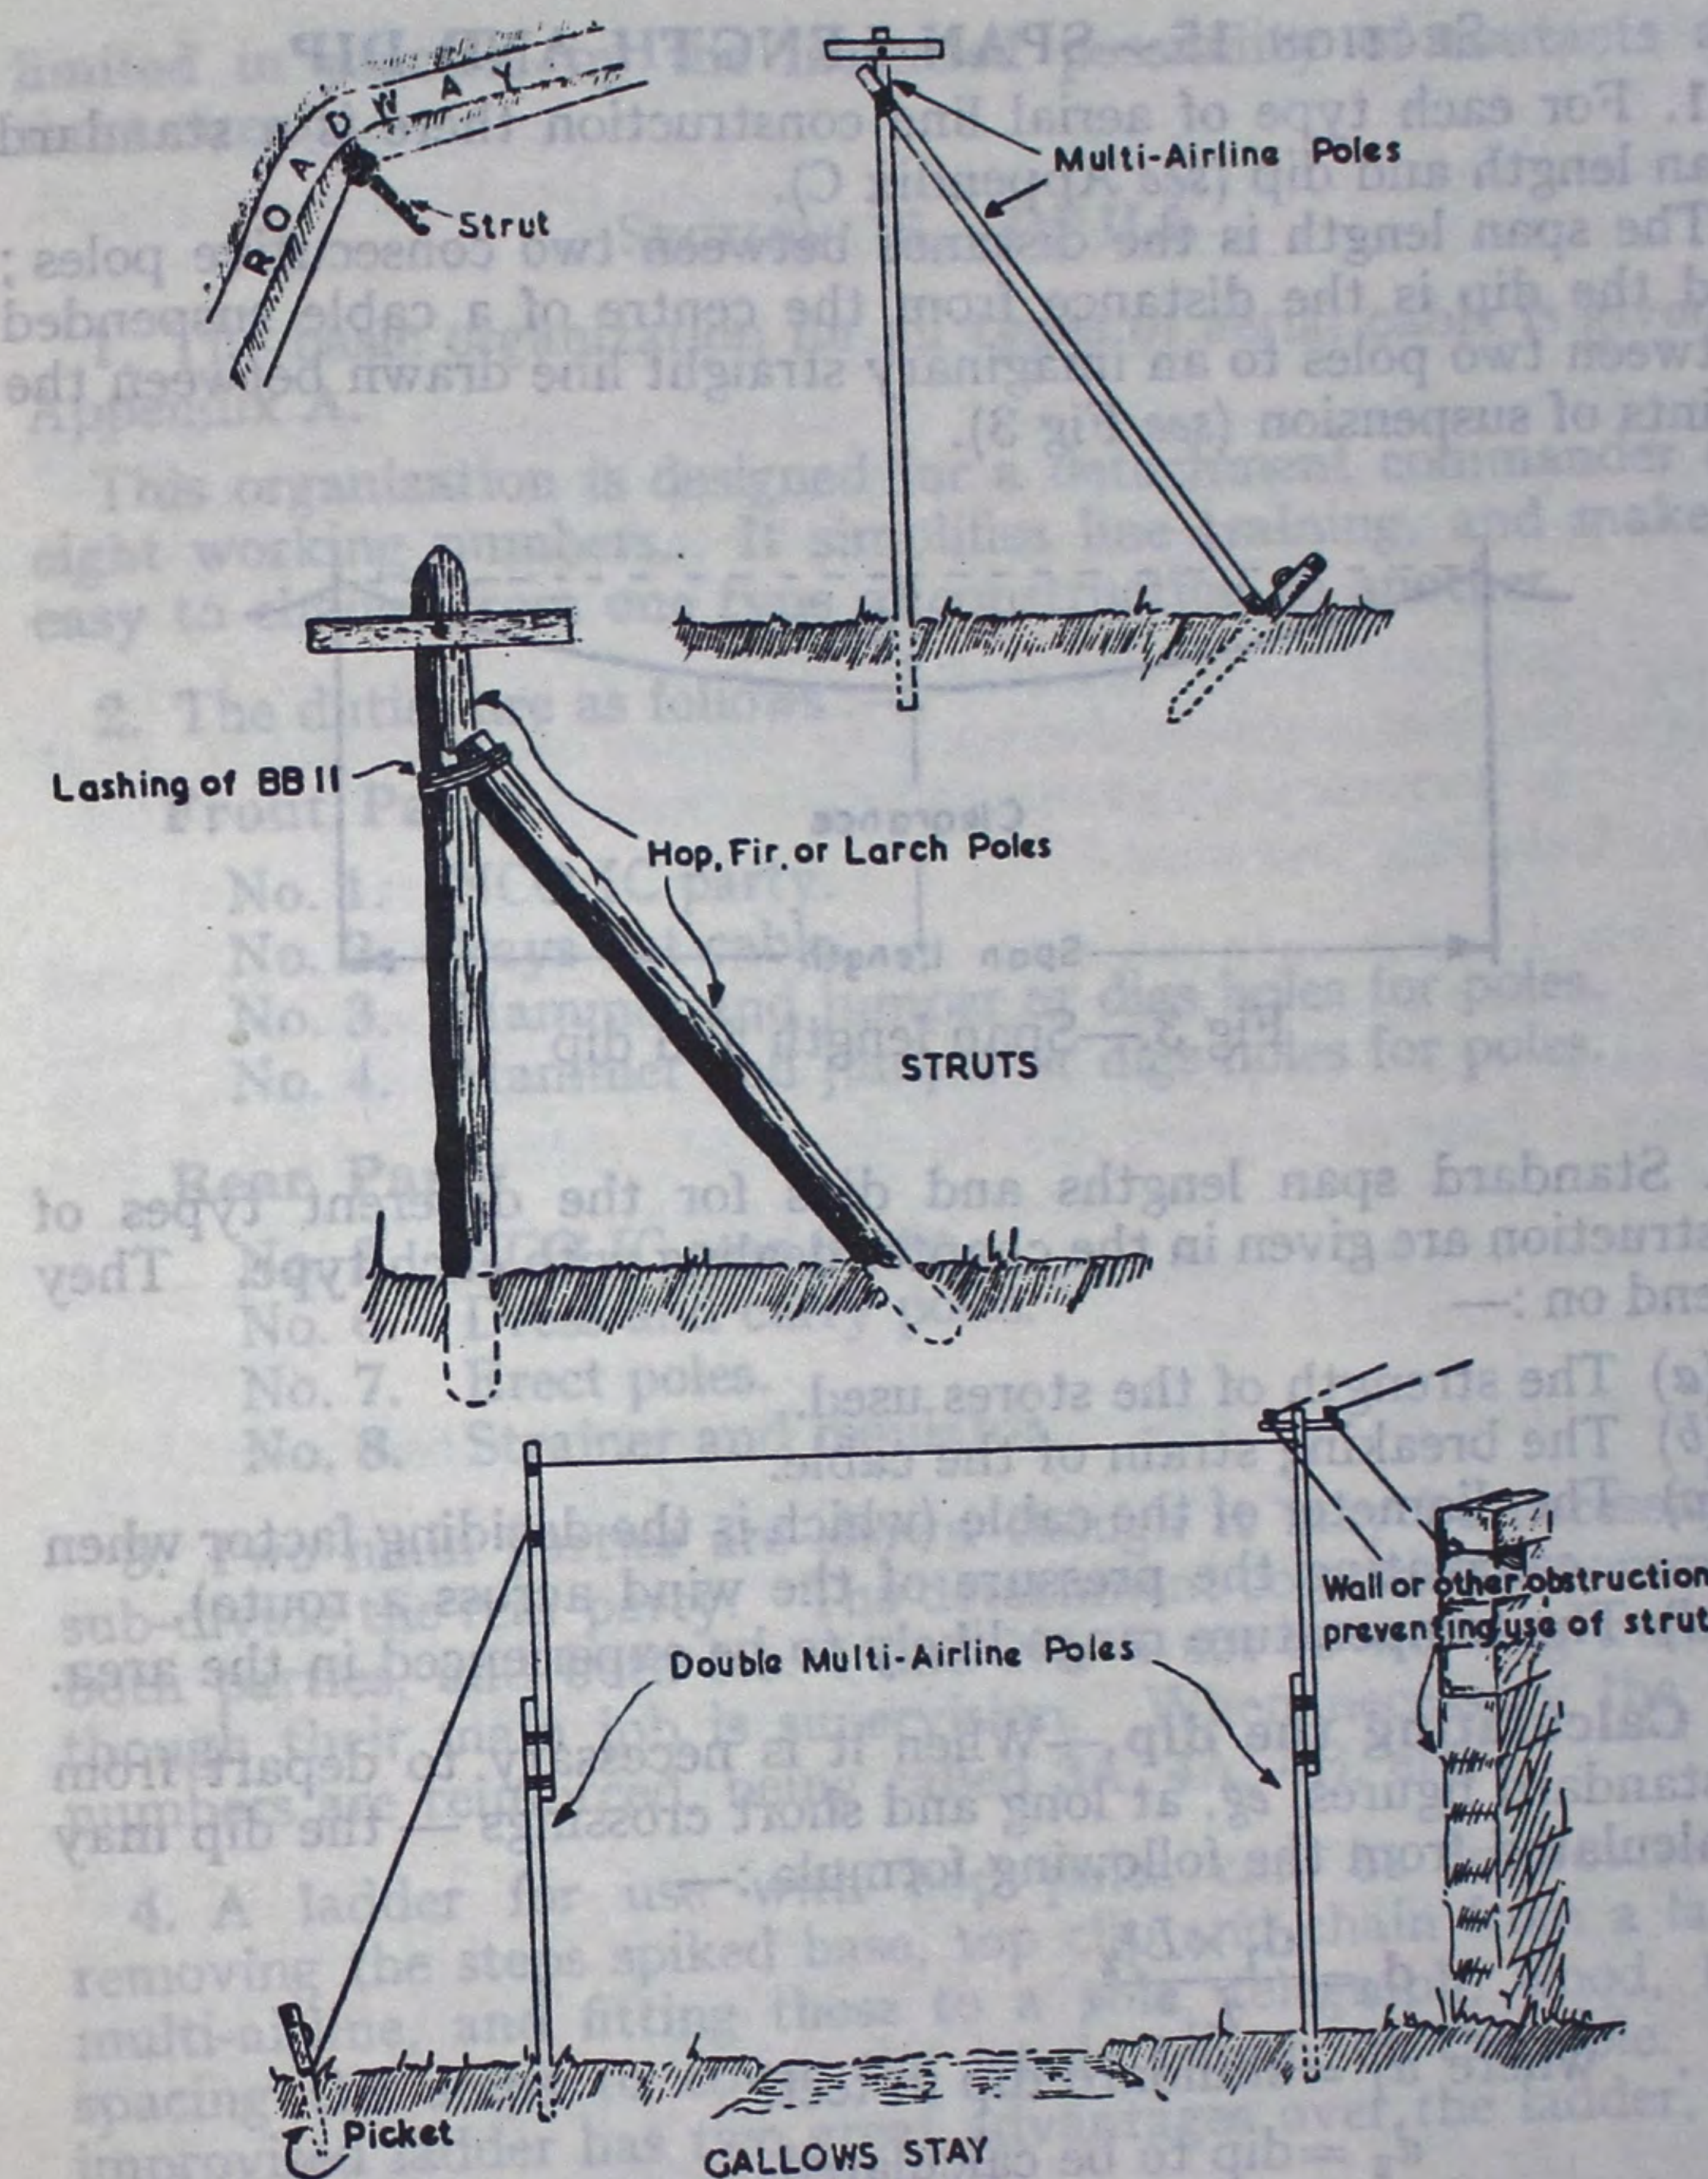

Fig 2.—Struts and gallows stay
7. When the staying methods laid down above are not practicable, ie, when a route runs close to a road and angle stays are required, struts and gallows stays may be used. These are illustrated in Fig 2.
When multi-airline poles are used for struts the top, tapered end of the pole is fastened to the top of the line pole and the other end fastened to a picket. When hop poles are used, the line pole must be *dressed*, as illustrated in Fig 2, so that the strut fits tightly. The other end is buried in the ground.